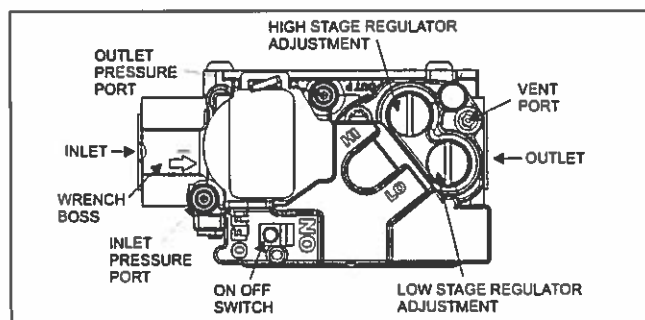

FIGURE 3: Two Stage Gas Valve
5. Use the 5/16" (7.94 mm x 1/8" (3.175 mm) reducing coupling and a 4" (101.6 mm) piece of 1/8" (3.175 mm) tubing to connect the positive side of the manometer to the gas valve pressure reference port. Refer to Figures 3 and 4 for connection details.
Reading the gas pressure with the burner box cover removed - Remove the screws securing the burner box front cover plate. Remove the cover. The gasket and may stick in place. Connect the positive side of the manometer to the gas valve as described in E above. There will be no second connection to the manometer, as it will reference atmospheric pressure. Refer to Figures 3 and 4 for connection details.
Connect the positive side of the manometer to the adapter previously installed in the OUT P Tap on the gas valve. Do not connect any tubing to the negative side of the manometer, as it will reference atmospheric pressure. Refer to Figures 3 and 4 for connection details.